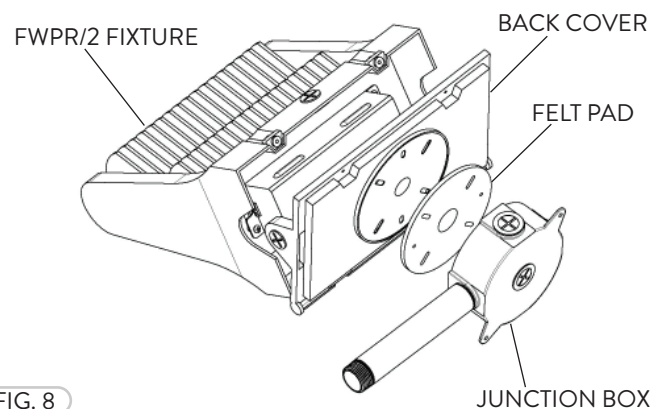

FIG. 8
- 3 Place the Felt Pad (with pre-cut hole patterns) between the Junction Box and Back Cover. Fasten the Junction Box to the Back Cover of the FWPR/2 fixture (Fig. 8). Apply sealant where necessary (Not included). Refer to wiring diagram.